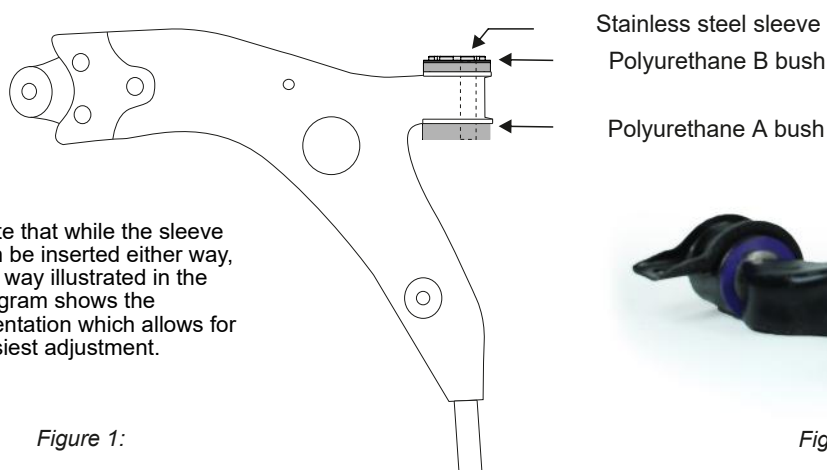

Figure 1:
3. Insert bushes into bore of the arm with polyurethane A bush (larger lip) fitting from the inside of wishbone, as shown in *Figure 1*.
4. Apply grease into bore of the bush and around top face. Fit sleeve into bush with machined face flush against polyurethane B bush (smaller lip) as shown in *Figure 1*.